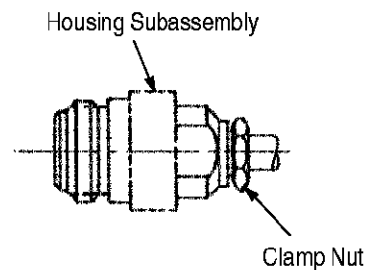

Figure 6
2.4. Assembling the Clamp Nut into the Housing Subassembly (Figure 6)